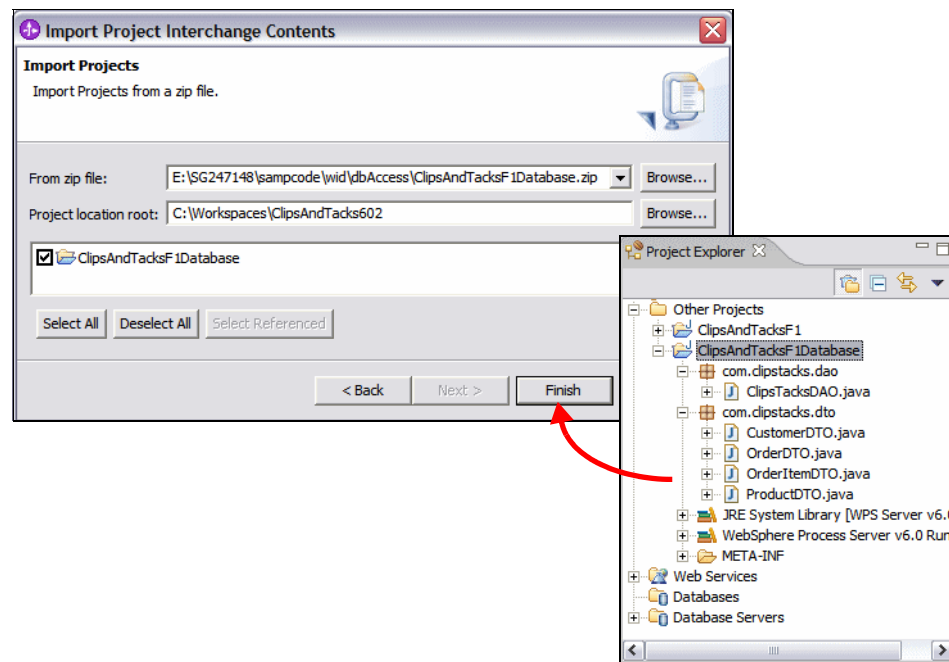

Figure 10-44 Import project containing database access code
- ▶ Select the ClipsAndTacksF1Database application and click *Finish* (Figure 10-44). The project appears under Other Projects.